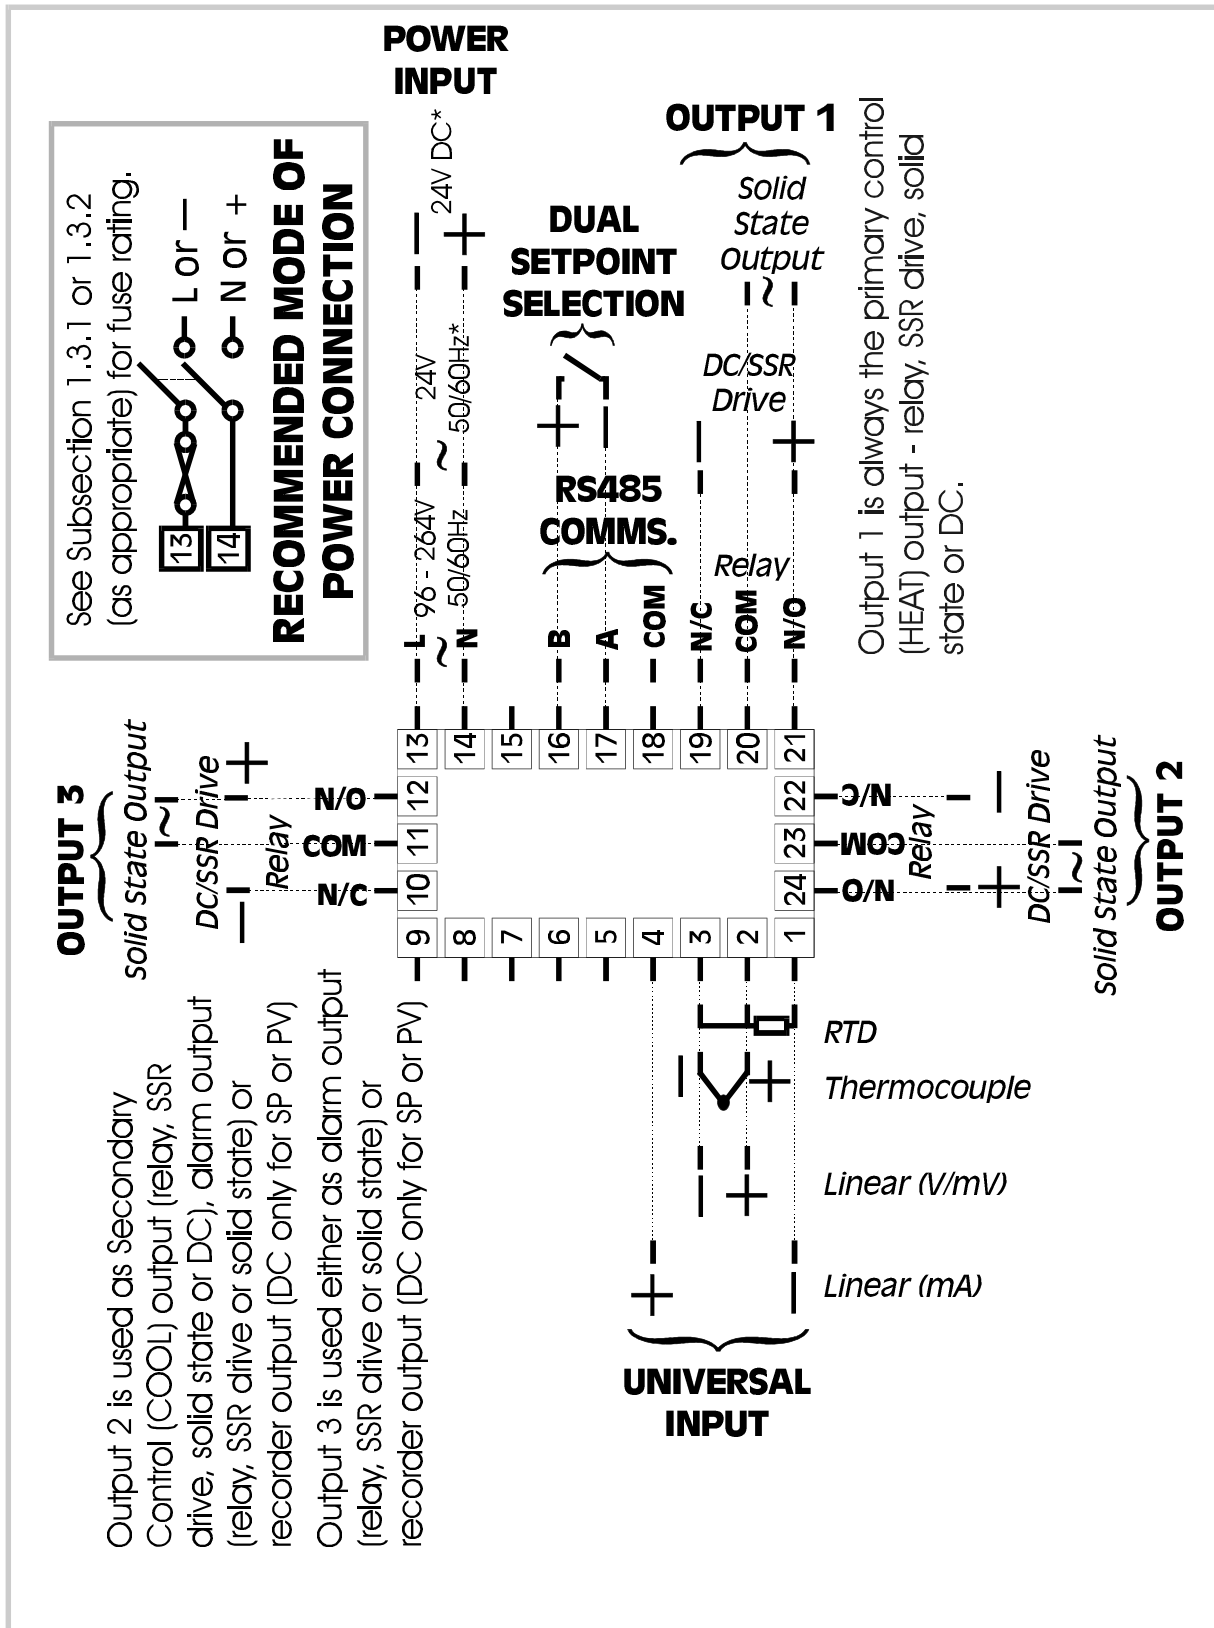
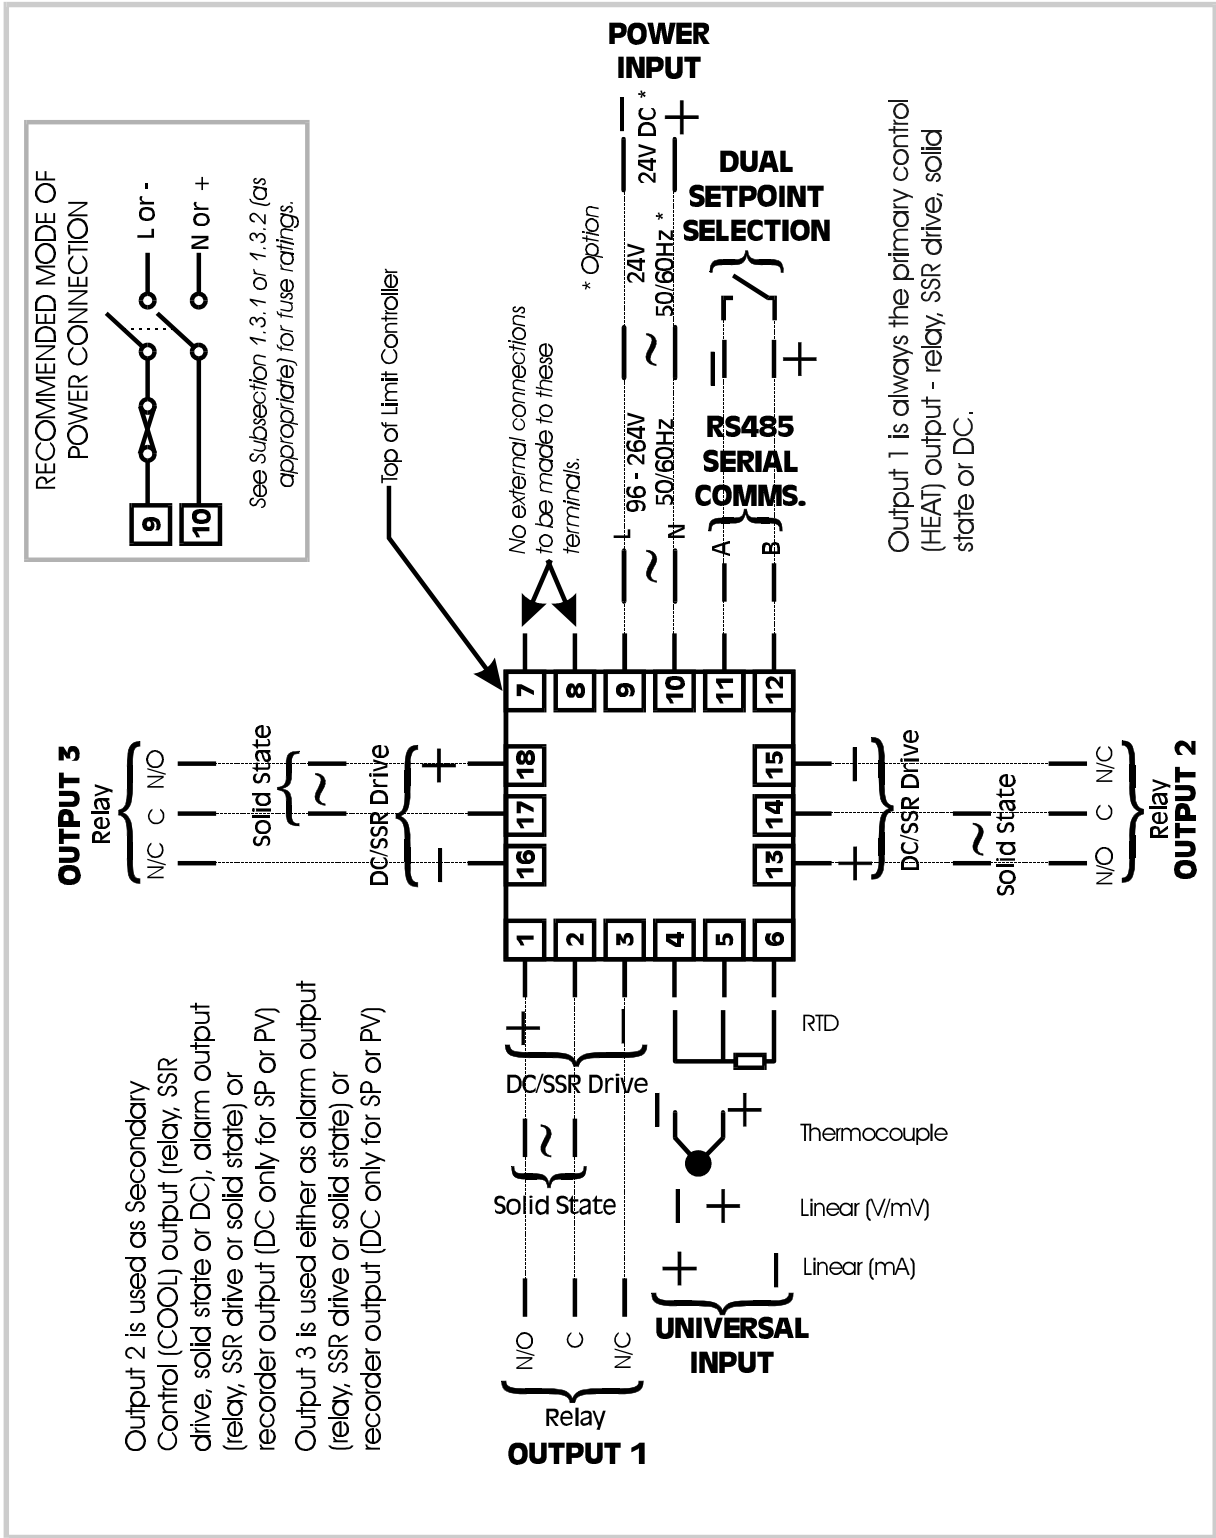

Figure 1-4 Rear Terminals ( $\frac{1}{4}$ -DIN &  $\frac{1}{8}$ -DIN Controllers)
Figure 1-5 Rear Terminals ( $\frac{1}{16}$ -DIN Controllers)
The rear terminal connections are illustrated in Figure 1-4 ( $\frac{1}{4}$ -DIN and  $\frac{1}{8}$ -DIN controllers) and Figure 1-5 ( $\frac{1}{16}$ -DIN controllers).
**CAUTION:** This equipment is designed for installation in an enclosure which provides adequate protection against electric shock. Local regulations regarding electrical installation should be rigidly observed. Consideration should be given to prevention of access to the power terminations by unauthorised personnel. Power should be connected via a two-pole isolating switch (preferably situated near the equipment) and a 1A fuse, as shown in Figures 1-4 and 1-5.
The supply connections for the 24V AC/DC option of the Controller are as shown in Figures 1-4 and 1-5. Power should be connected via a two-pole isolating switch and a 315mA slow-blow (anti-surge Type T) fuse. With the 24V AC/DC supply option fitted, these terminals will accept the following supply voltage ranges:
For linear mA input ranges, connection is made to Terminals 4 and 6 ( $\frac{1}{16}$ -DIN controllers) or Terminals 4 and 1 ( $\frac{1}{4}$ -DIN &  $\frac{1}{8}$ -DIN controllers) in the polarity shown in Figures 1-4 and 1-5. For linear mV and V ranges, connection is made to Terminals 4 and 5 ( $\frac{1}{16}$ -DIN controllers) or Terminals 3 and 2 ( $\frac{1}{4}$ -DIN &  $\frac{1}{8}$ -DIN controllers) in the polarity shown in Figures 1-4 and 1-5. For details of the linear input ranges available, refer to Appendix A.